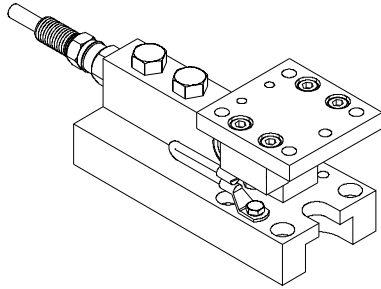

FIG. 5: GROUND STRAP INSTALLED
- Step 5. Place one of the ground strap connectors over the threaded hole in the base plate. These are the ones that fastened the shipping bracket to the base. (See Fig. 5)
- Step 9. Fig. 5 shows the ground strap installed on the left side when facing the front of the load point assembly. However, you can install the strap on either side if necessary.